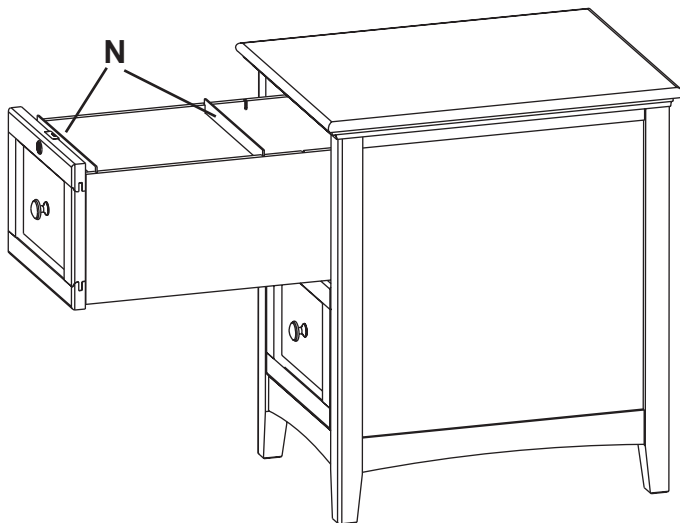

Fig. 1b
1. Store your letter-sized hanging folders either parallel or perpendicular to the front of the drawer. Legal-sized folders must hang perpendicularly. To hang your files perpendicularly, remove the Plastic File Rails (M). See Figures 1 and 1a. There are slots on the sides of the drawers. Insert an Aluminum File Rail (N) into the slots nearest to the Drawer Face (D or E). Insert another Aluminum File Rail (N) into the second set of notches for letter-sized folders or the third set of notches to hang legal-sized folders. See Figures 1b and 1c.